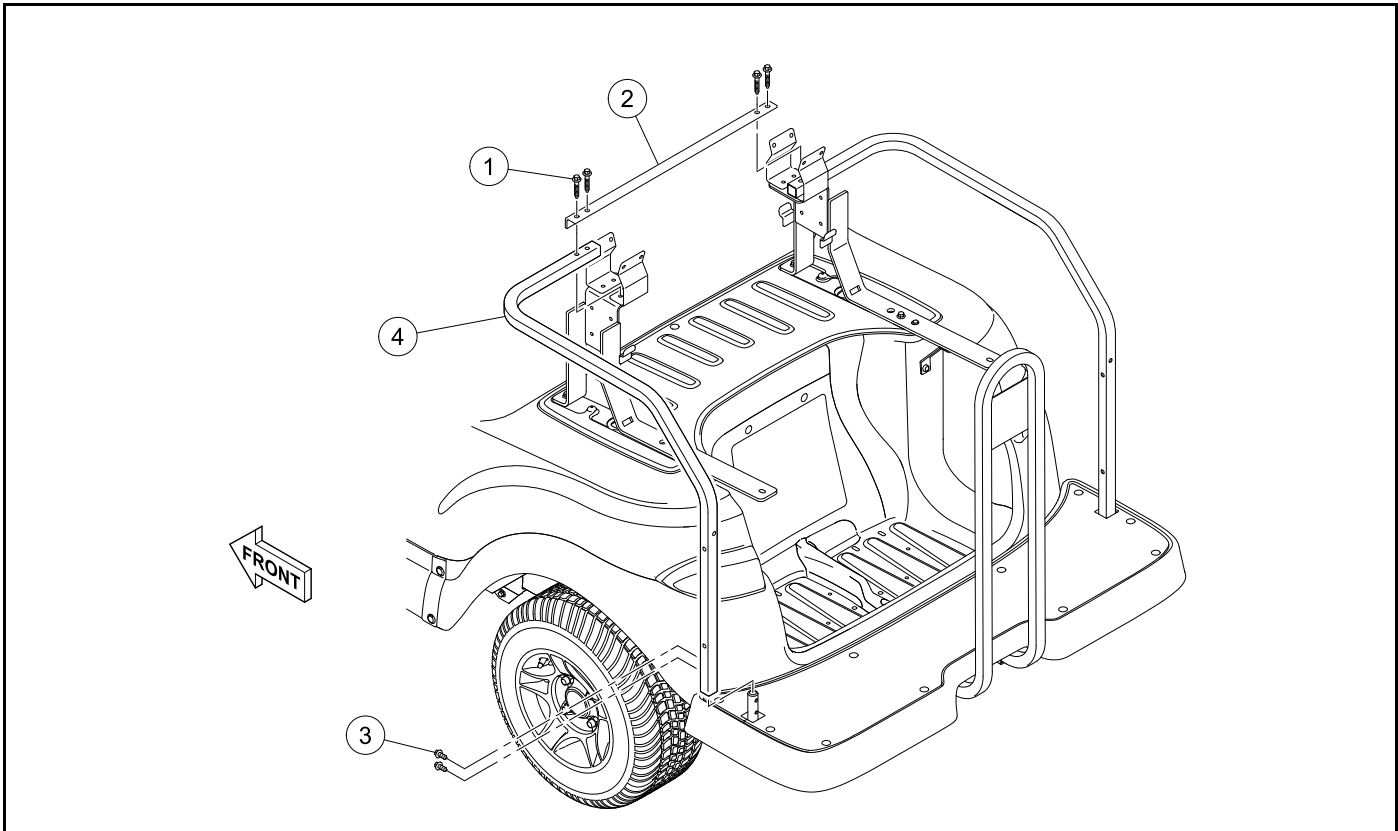

Figure 4-46 Fixed Rear Seat Hip Restraint
1. Remove the screws (1) (**Figure 4-46**).
2. Remove the strut angle (2).
3. Remove the screws (3).
4. Lift and remove the hip restraint (4).
1. Install the rear hip restraint (4) onto the foot deck.
2. Install the screws (3). Tighten the screws to 4.4 lb·ft (6 N·m) (**Figure 4-46**).
3. Install the strut angle (2) on the rear hip restraint.
4. Install the screws (1). Tighten the screws to 4.4 lb·ft (6 N·m).